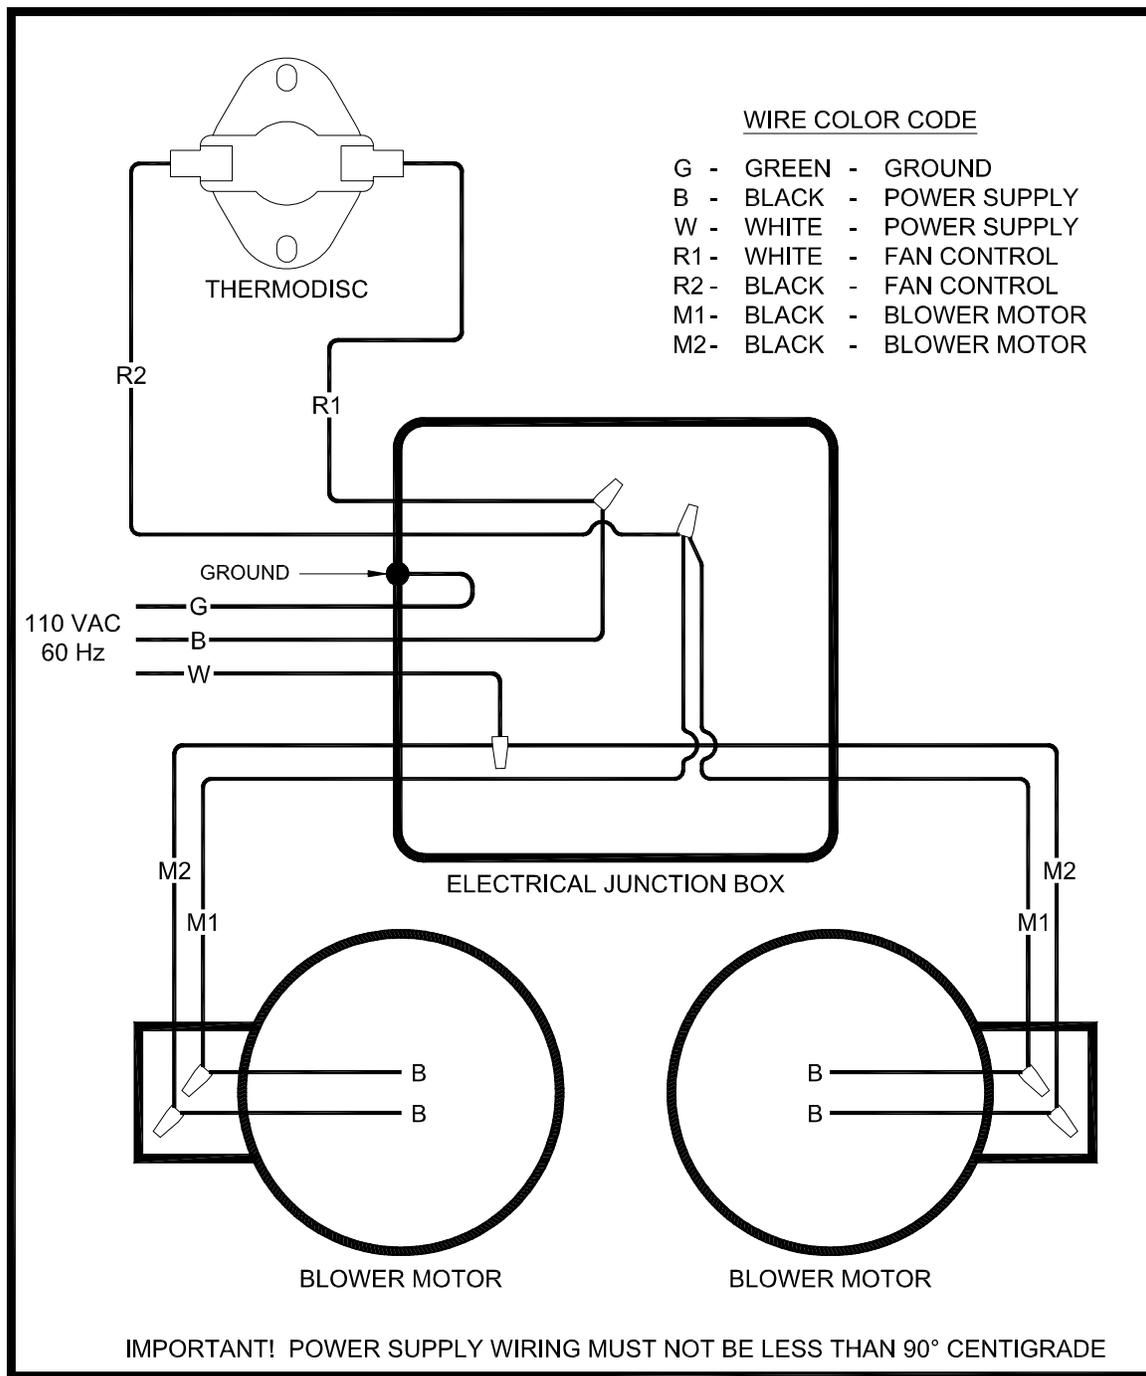

FIGURE 11
6. Wire right side blower first (See wiring diagram, Fig. 11) and replace cover on junction box on blower.
f) Connect electrical supply in the electrical junction box that is mounted on the back of the Furnace. See Wiring Diagram (Fig. 11). Remove the cover from electrical junction box and connect power supply wires to wires designated, using wire nuts. The power cord supplied may be used for installation, if permitted by local codes and regulations. If the power cord supplied cannot be used, the power supply wiring must be 90 degrees centigrade in a metal cable and should be completed by a qualified installer complying with NFPA Standard No. 70 and local codes.
The electrical supply for operation of this fan control switch is to be obtained from the same electrical supply as the central hot air heating system. Follow the instructions of the wiring diagram (Fig. 11). Do not make connections across the thermdisc in the furnace.